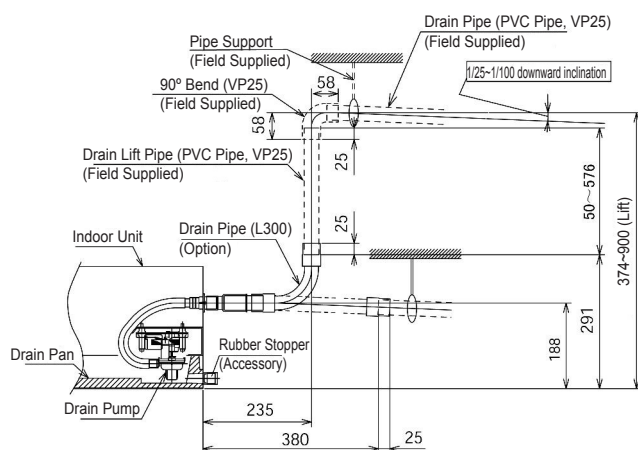

Fig. 6.14 Drain Pipe
- (1) See Fig. 6.14 for connection point of drain pipe.
- (2) Find a PVC pipe with an outside diameter of 32mm.
- (3) Fix the PVC pipe to drain pipe through adhesive and factory-supplied clamp. The downward inclination of drain pipe is 1/25~1/100.
- (4) Make thermal insulation after the proper connection of drain pipe.